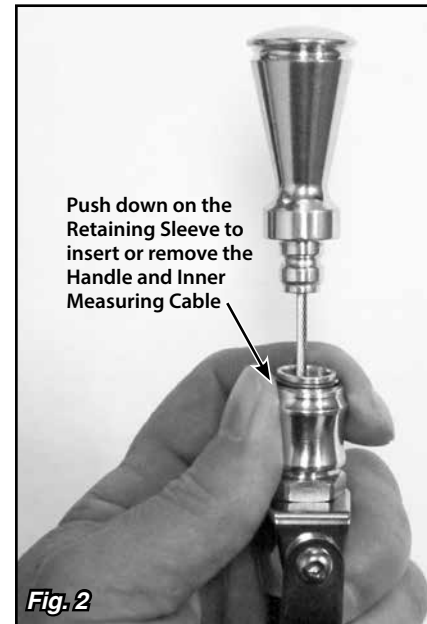

Fig. 2
The Lokar Dipstick tube assembly has a locking quick disconnect fitting on the handle end. To install or remove the handle and inner measuring cable, slide the spring-loaded retaining sleeve downwards away from the handle. Fig. 2
Step 4: Insert the handle and inner measuring cable fully into the dipstick tube assembly. The retaining sleeve **MUST** be pushed down in order for the handle and inner measuring cable to be fully inserted. Fig. 2